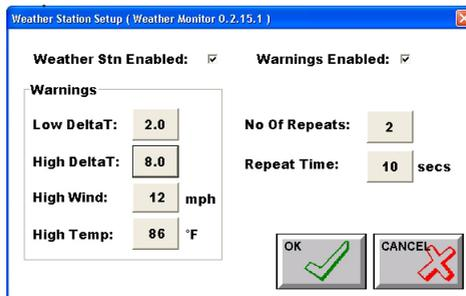

Figure 9-2. Weather Station Setup Window
1. On the *Weather Station Setup* dialog box (Figure 9-2 on page 9-1) select the **Weather Stn Enabled** option, to enable the Weather Station. To enable the Weather Stn option press the white box (so that a black tick appears in it).
To enable the Weather Station warnings select the **Warnings Enabled** option on the *Weather Station Setup* dialog box (Figure 9-2 on page 9-1), by pressing the white box (so that a black tick appears in it).
When the Weather Station Enabled option has been selected, then the warnings will be sounded when the alarm points have been reached, as displayed in the *Warnings* window (Figure 9-2 on page 9-1).
1. In the *Warnings* window on the *Weather Station Setup* dialog box (Figure 9-2 on page 9-1) press the button next to the warning alarm that requires changing
1. In the *Warnings* window on the *Weather Station Setup* dialog box (Figure 9-2 on page 9-1) press the button next to the No. of Repeats
1. In the *Warnings* window on the *Weather Station Setup* dialog box (Figure 9-2 on page 9-1) press the button next to the Repeat Time